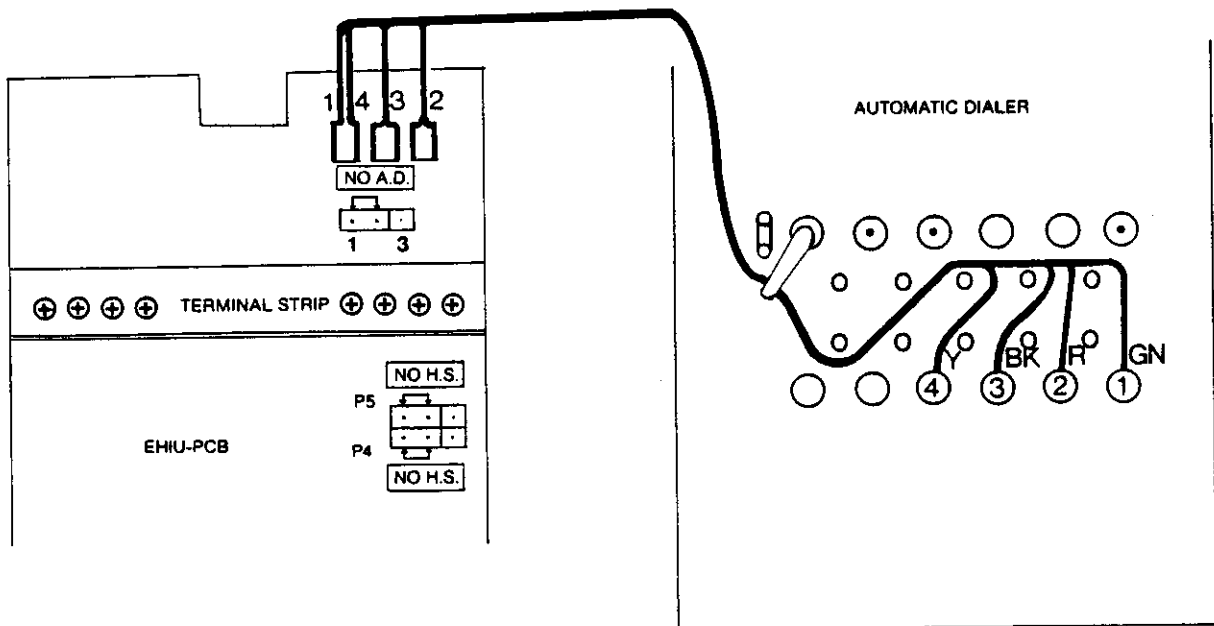

FIGURE 8 — AUTOMATIC DIALER CONNECTIONS FOR REPLACEMENT CABLE AND "NO A.D." AND "NO H.S." PIN LOCATIONS
5.1 On the EHIU PCB, directly below the AD terminals, are three pins labeled "NO A.D." These pins are to be strapped as follows (see Figure 8):
5.2 Identify the P4 and P5 pins. Both are labeled "NO H.S." (HeadSet) and are directly in front of terminals (9) and (10) on the EHIU PCB. The straps for both the P4 and the P5 should be set as follows (see Figure 8):